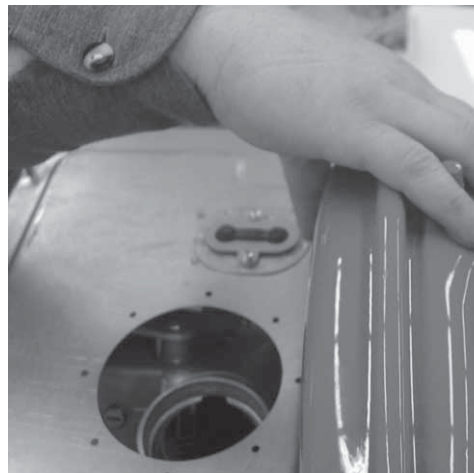

Figure 47
- Lift vessel out of boiler from the gap over the chasis and fit replacement vessel to boiler in reverse order to removal, ensuring that sealing washer is fitted to pipe connection before tightening. (Figure 47)